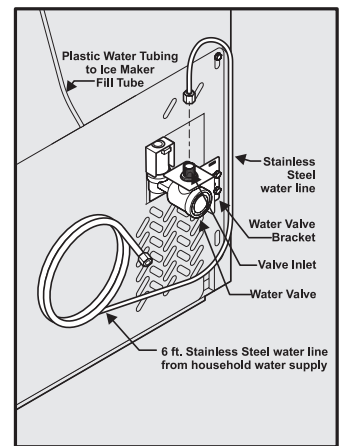

Figure 2
4. **If you use stainless steel tubing** - The nut and ferrule are already assembled on the tubing. Slide compression nut onto valve inlet and finger tighten compression nut onto valve. Tighten another half turn with a wrench; DO NOT over tighten. See Figure 2.